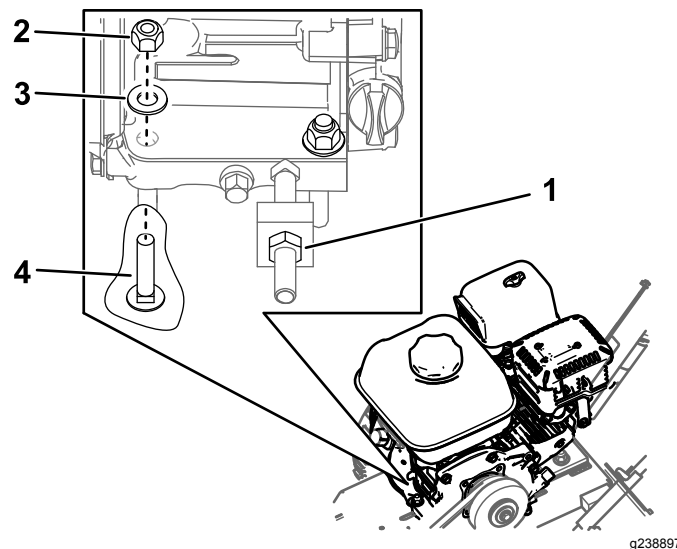

Figure 2
2. Loosen, or remove and retain, the 4 carriage bolts, 4 washers, and 4 locknuts securing the engine to the frame (Figure 2).
3. Loosen the jam nut on the tensioner bolt (Figure 2).